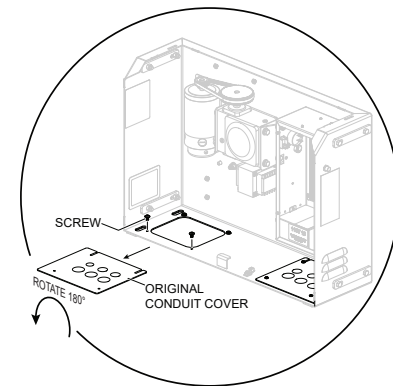

Figure 9. Conduit Cover 180° Rotation
7. Using a Philips Head screwdriver, remove conduit cover panel (2). Rotate conduit cover panel (2) 180° and reinstall for rodent protection. See Figure 9.